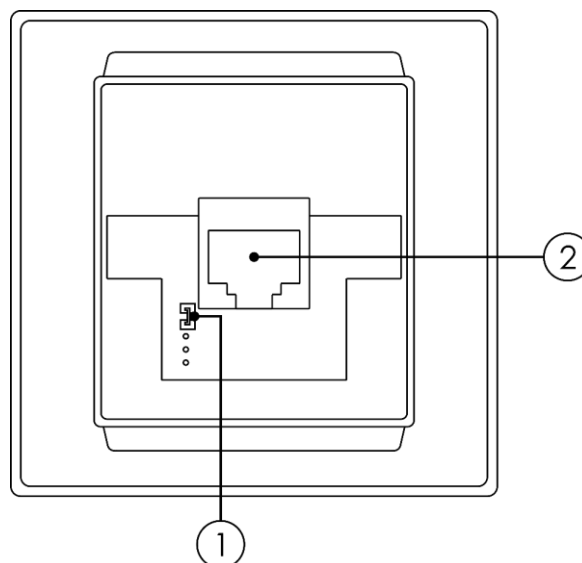

Fig. 02
- 02) You can install the Wallpanel in two ways, **with or without the jumper**. Please, see Fig. 02 page 5.